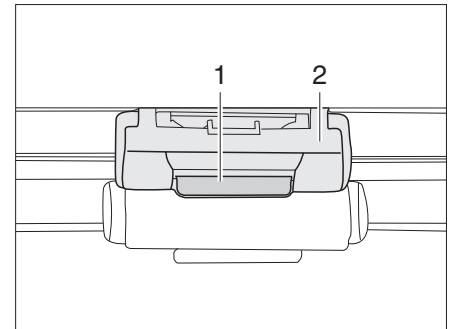

Fig. 28 Multifunction skylight blind locking mechanism
- Hold the roller insect screen at the handle (Fig. 28,2) and press the unlocking bar (Fig. 28,1) at the handle. The lock is released.